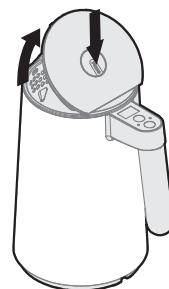

Figure 1
2. Completely unravel the power cable and place the power base on a flat, level, stable surface. Press the button to open the cover (Figure 1).